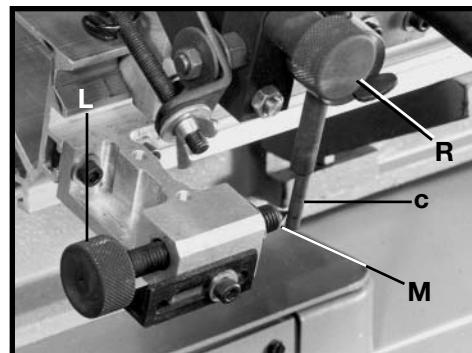

Fig. 52
9. Turn knob (L) Fig. 52 clockwise until point of screw (M) is contacting rear portion of follower arm (C). **IMPORTANT:** If necessary, turn fine-adjustment knob (R) right or left to adjust.